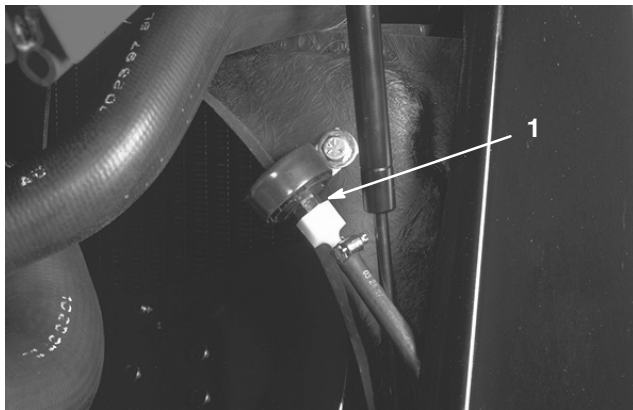

Figure 53
2. Breather is located along right side of radiator (Fig. 53). Clean area around it, unscrew it with a wrench and install replacement.